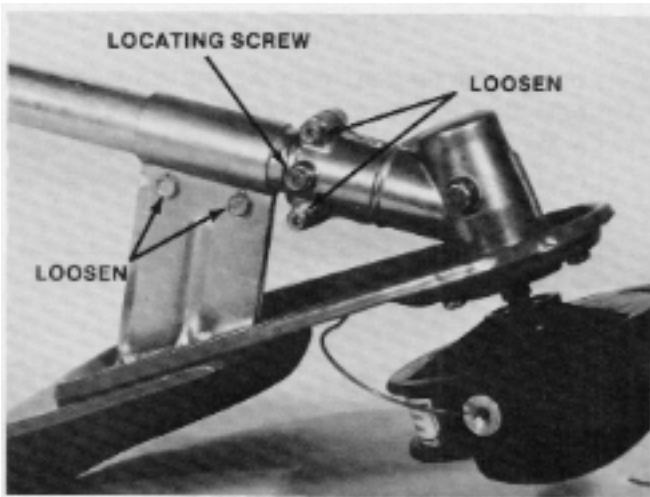

Figure 136
4. Remove the gearbox locating screw then loosen the four other screws denoted by arrows in Figure 136.